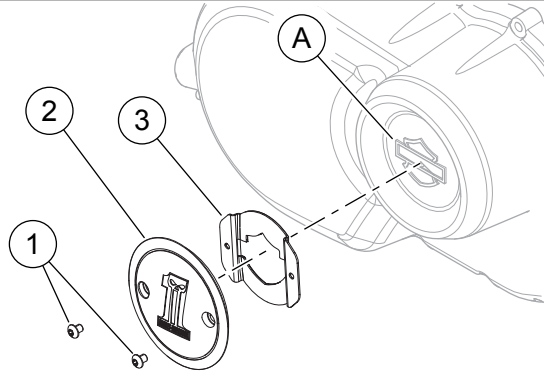

Figure 1. Service Parts: Primary Cover Trim Kit
This kit contains one cover trim, one bracket, two screws and these instructions. See Table 1 and Figure 1.
2. See Figure 1. Test-fit the bracket (3) before removing the protective backing from the tape. The cutout fits over the Bar & Shield logo (A).
4. Secure the trim with two screws (1). Tighten to: